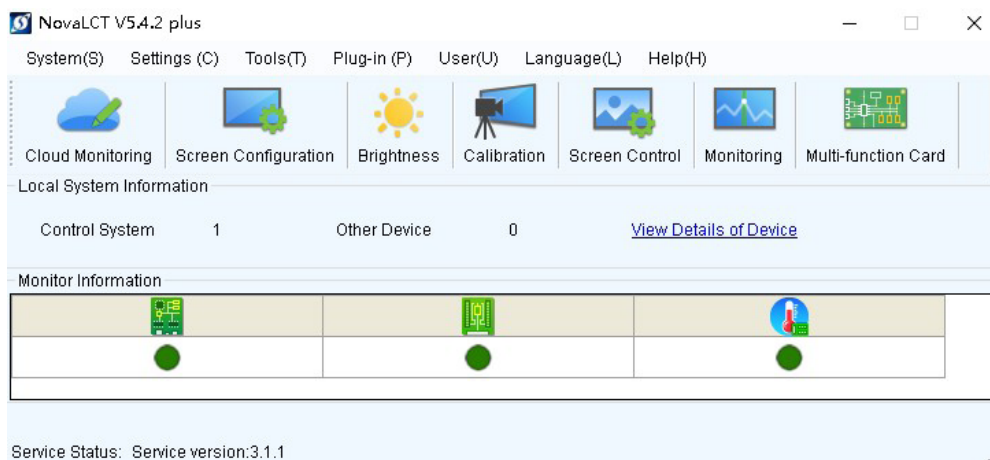

Figure 1-3
3. Enter the password **admin** or **666888** in the main menu. See Figure 1-3.